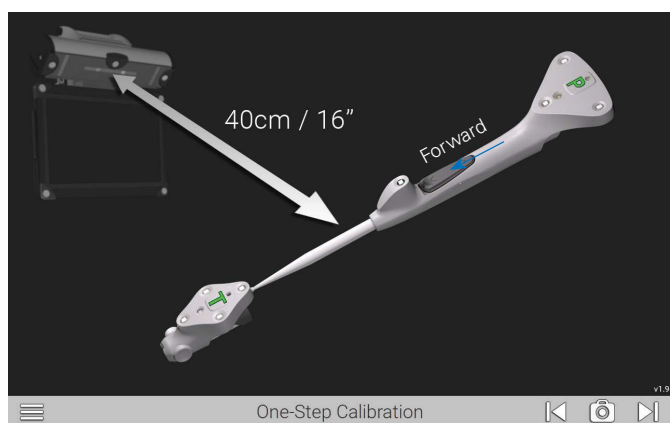

Figure 10
The One-Step Calibration screen is displayed (Figure 10). Place the tip of the Probe Tracker (P) into the dimple node at the top of the T Tracker. Hold both together **no more than** 16 inches from the display unit ensuring the white diodes are facing the camera.